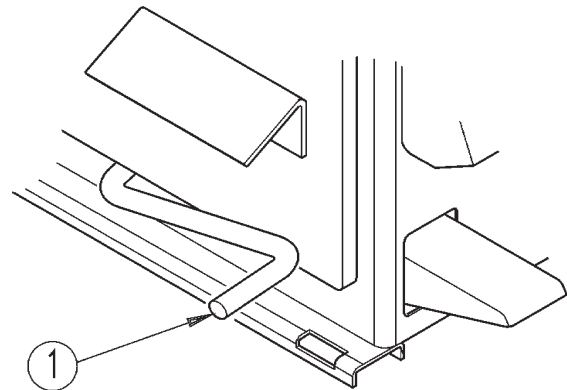

Figure 3.0-5
- F Press bead seater/inf ator pedal on left side of the machine half way down (#1 Fig. 3.0-5): air will come from inf ation hose end only.